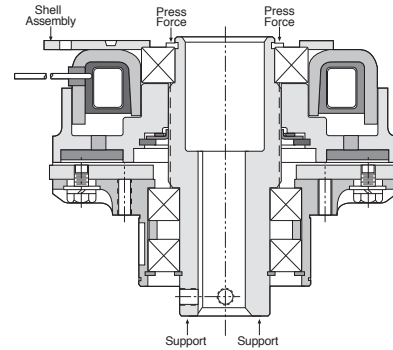

Figure 47
22. Press the field assembly onto the hub by **pushing the inner race of the bearing** while supporting on the hub. Apply force until the inner race of the bearing is located flush against the shoulder adjacent to the spline. (See Figure 47)